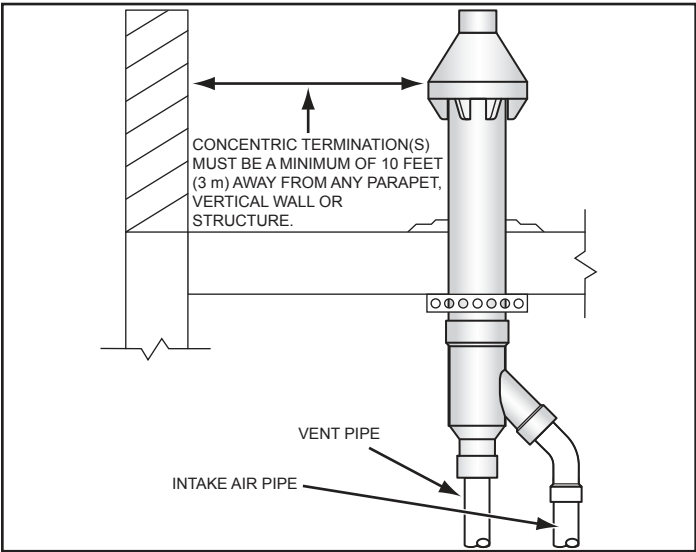

Figure 27. Concentric Termination - Flat Roof Clearance
- When installing a concentric termination vertically through a flat roof, the termination's vent cap must be a minimum of 10 feet (3 m) away from any parapet, vertical wall or structure as shown in *Figure 27*.